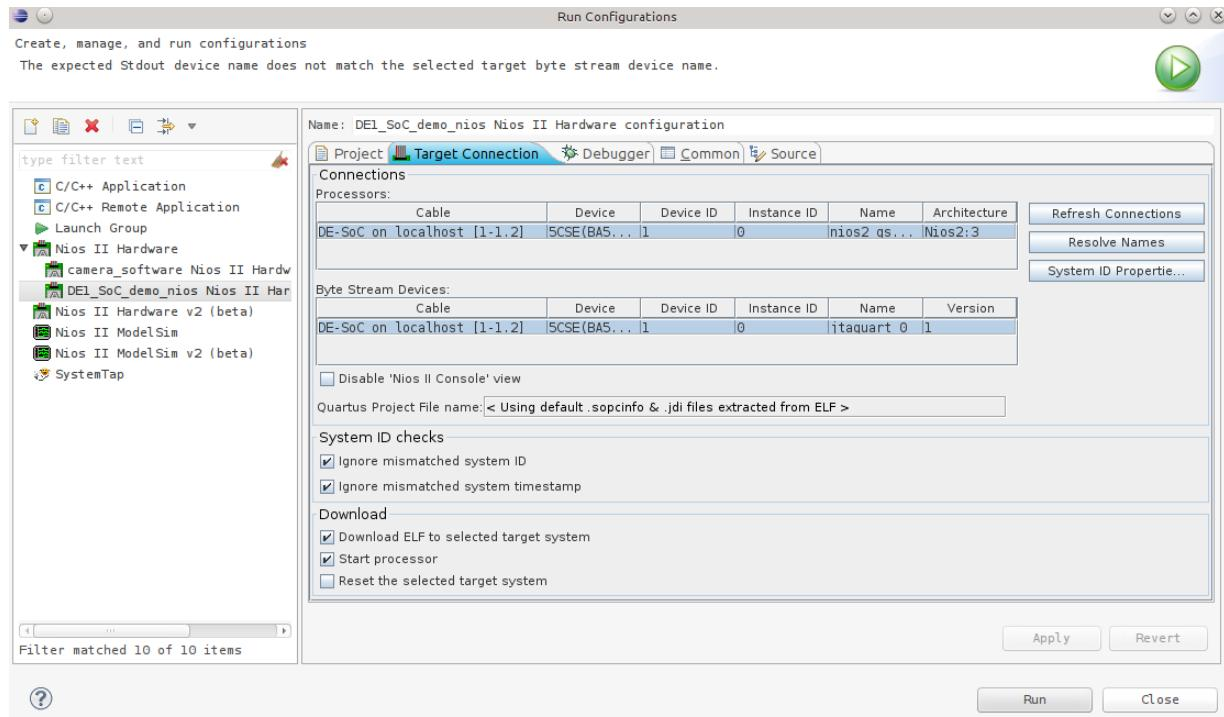

Figure 8-22. Nios II Target Connection Dialog
8. In some cases, it is possible that the program will not immediately run on the Nios II processor, and you will be prompted with a “Target Connection” dialog, as shown in Figure 8-22. If your Nios II CPU doesn’t appear in the list of available processors, then
- Click on the “Refresh Connections” button on the right of Figure 8-22.